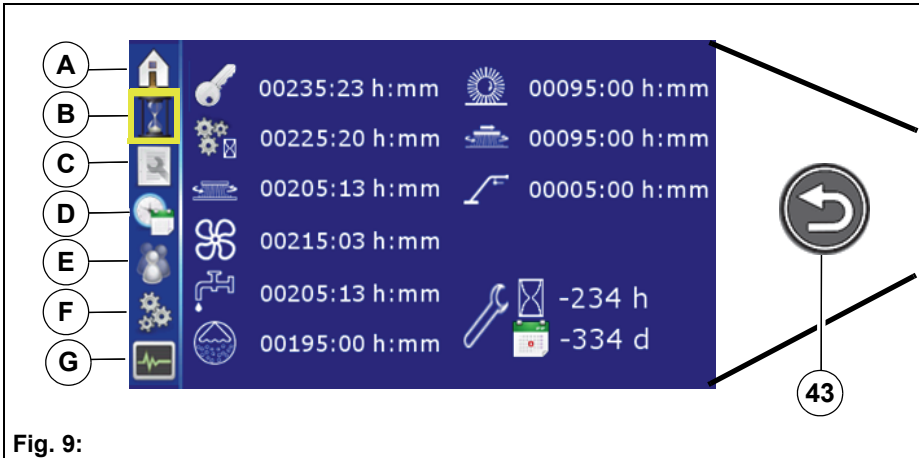

Fig. 9:
- soft key *Home* **Fig. 9-A** or
Operating hours meter menu Fig. 9-B
Maintenance menu Fig. 9-C
Time/date menu Fig. 9-D
User settings menu Fig. 9-E
Configuration menu Fig. 9-F
Service information menu Fig. 9-F